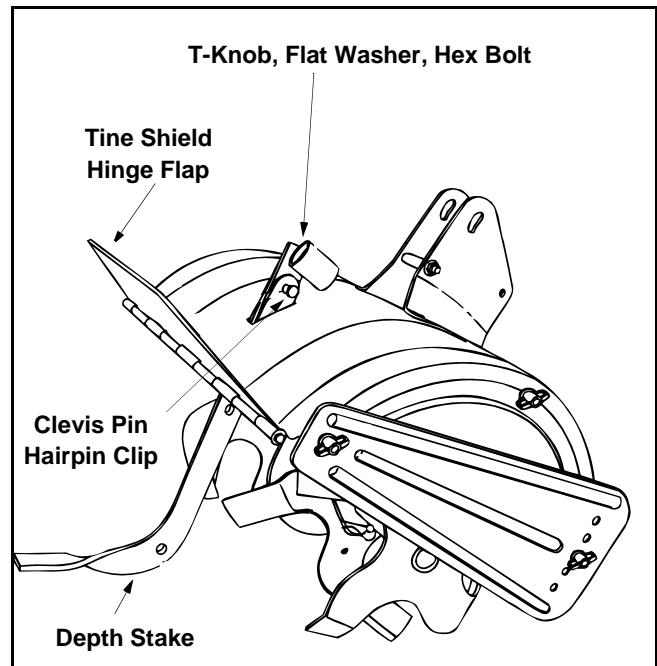

Figure 1
- Unthread the "T" knob from the top of the depth stake, and remove the flat washer and hex bolt. Remove the hairpin clip from the clevis pin. See Figure 1
- Insert hex bolt into the top hole of the depth stake assembly. Place flat washer on the hex bolt and thread "T" knob onto the hex bolt. Tighten securely. See Figure 1.